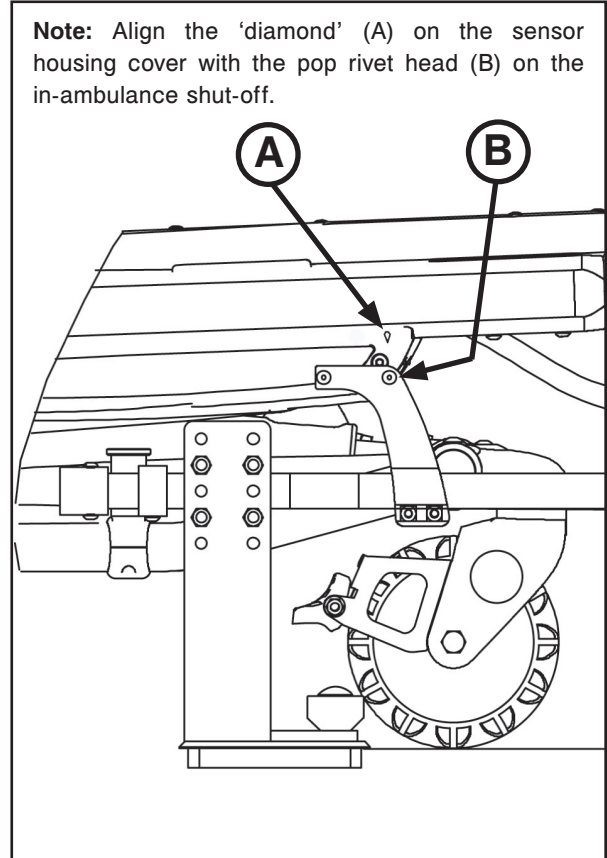

Figure 11
8. Adjust the shut-off bracket along the rail clamp until the “diamond” (A) on the sensor housing is lined up with the pop rivet head (B) as shown in Figure 11.